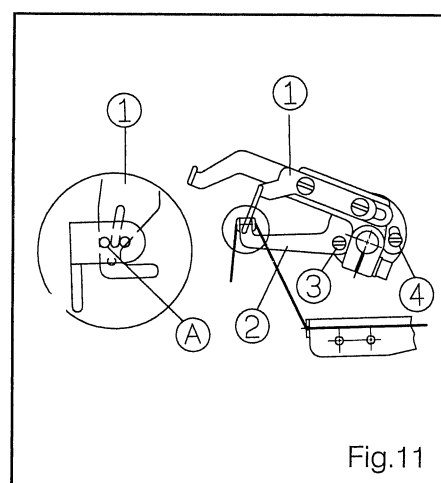

Fig.11
1. When the spreader thread take-up (1) is adjusted to the top end, the small hole (A) of the other spreader thread take-up (2) must be at the same level with the long groove of the spreader thread. (Fig.11)
2. To adjust, loosen screw (3) and (4), and move the spreader thread take-up (2) up or down, and then tighten screw again.